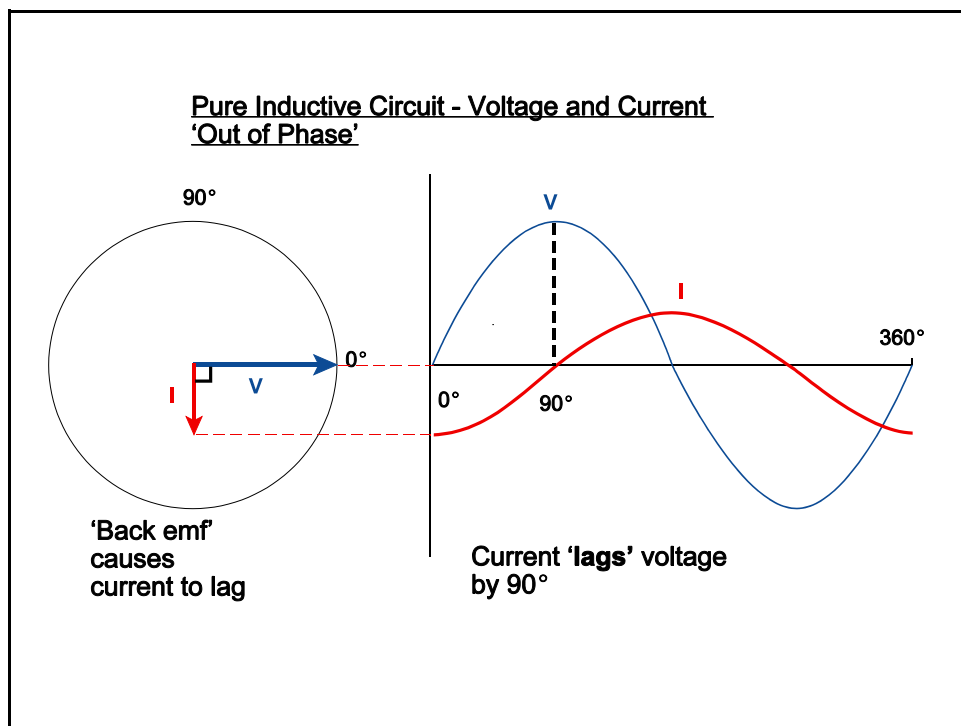

Figure 11.9 The Phase Relationship in a Purely Inductive Circuit
**In a circuit having only inductance the current lags the voltage by 90°.** This is illustrated in Figure 11.9